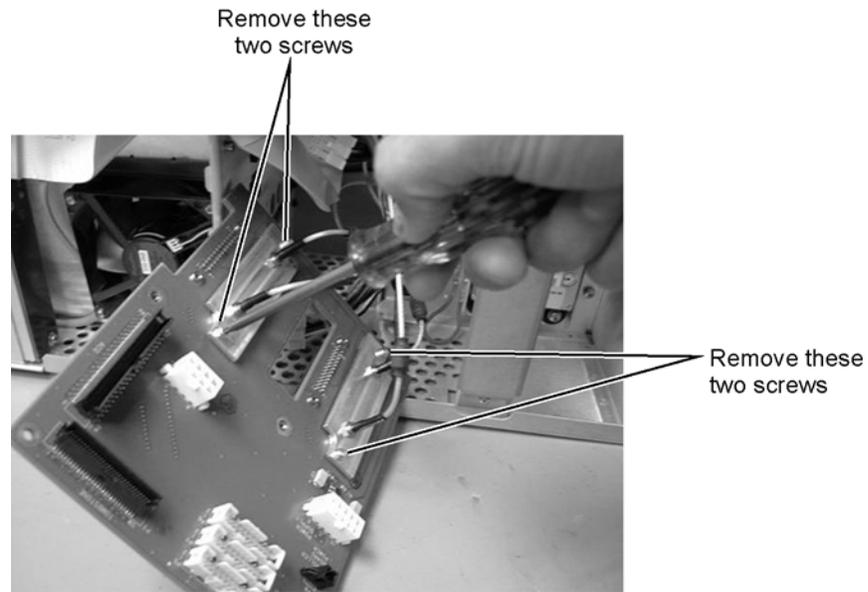

Figure 7-59. Removing the Screws from the A6 Bracket
- 7 Remove the two screws that secure each bracket, as shown in Figure 7-59.